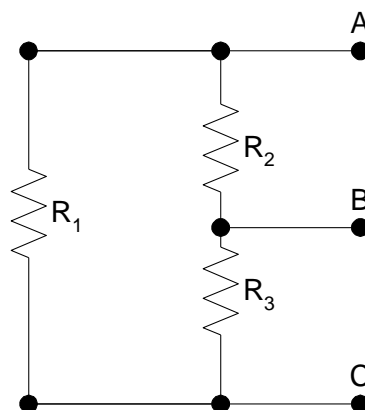

Figure 2.8: Illustration of view points
2. Construct a circuit of these resistors as shown below in Figure 2.8.